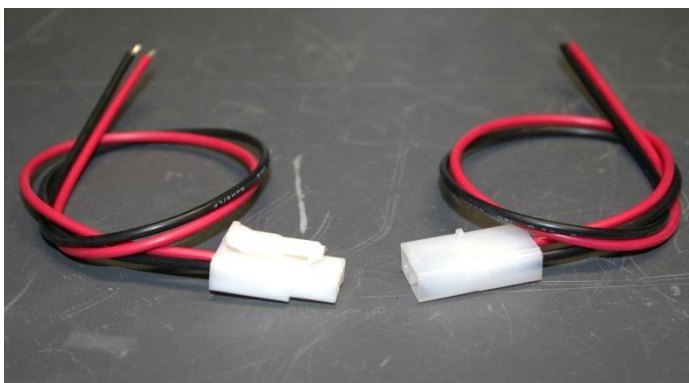

Figure 32 – Tamiya-style power connectors
A much cheaper alternative to the Microscope Solutions connector is to make your own, starting from a Tamiya-style 2-pin plastic connector, as shown in Figure 32 (item 13 of Table 2).